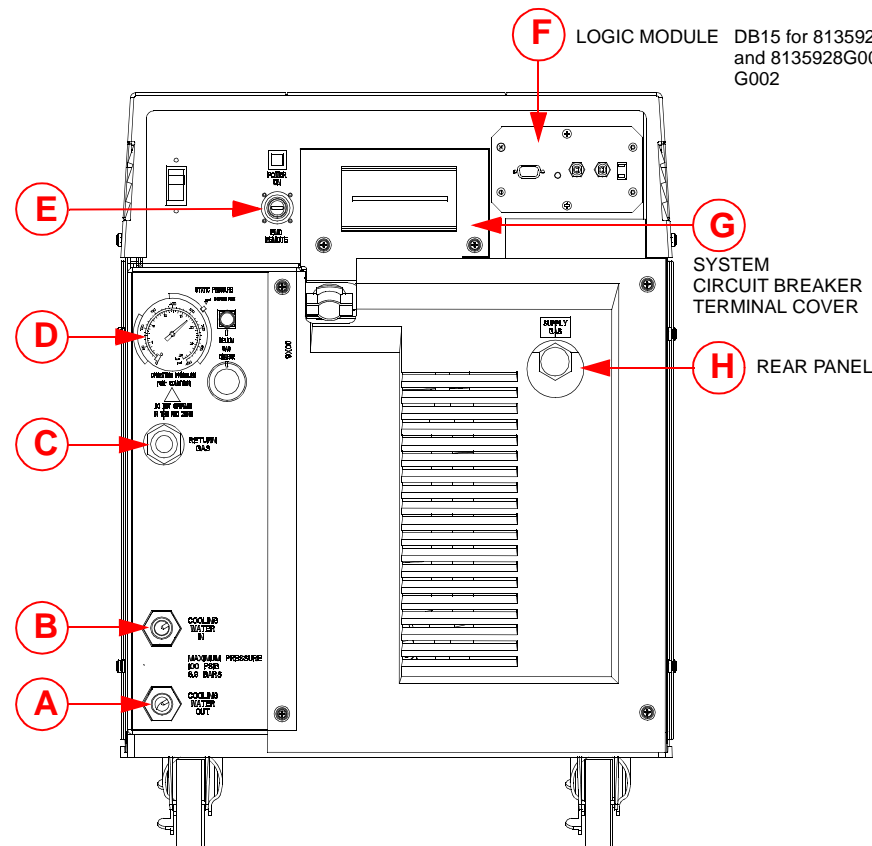

Figure 1: On-Board *IS* 1000 Compressor Installation Points
3. Remove the Rear Panel as shown in Figure 1.
4. Remove the System Circuit Breaker Terminal Cover as shown in Figure 1.
5. Install the cable into the Compressor through the cable strain relief as shown in Figure 1, Detail C.
6. Remove the 10-32 nut and install the grounding wire on the ground stud as shown in Figure 1, Detail C. Replace the nut and tighten to 18 in.-lbs (0.21m-kg).
8. Install the conductor terminal lugs to the circuit breaker terminals X, Y and Z in Figure 1, Detail C.